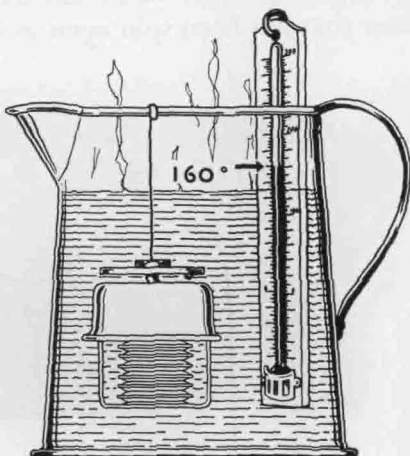

FIG. 14-2. Testing cooling-system thermostat.
1. *Testing thermostat.* The action of the thermostat can be observed by placing it in a pan of water and heating the pan. A thermometer should be suspended in the water, so that the temperature at which the thermostat starts to open, as well as the full-open temperature, can be determined. The thermostat should not be placed on the bottom of the pan but suspended by a wire or placed on a screen an inch or so above the bottom (see Fig. 14-2). Thermostats are calibrated to operate at various temperatures. If a thermostat does not function according to specifications, it should be replaced.